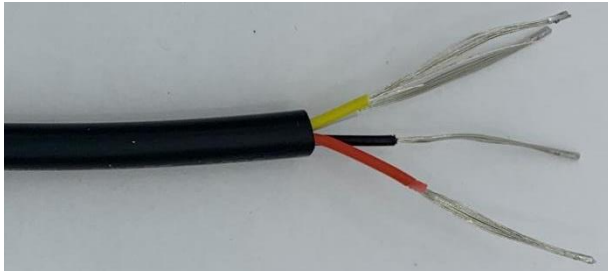

Figure 24: Waterproof connector cable with wire jackets stripped.
8. Strip the jackets about 1.5 cm of all four wires on the connector cable using the smaller gauge wire strippers (Figure 24).